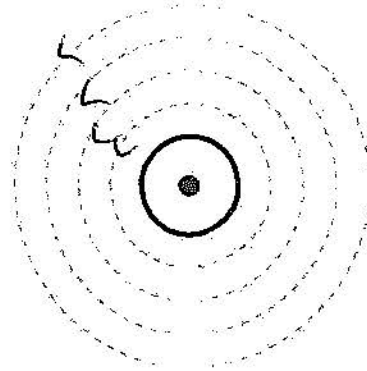

Figure 4
- current flowing towards the observer is indicated by a dot in the centre of the circle representing the conductor, see figure 4.